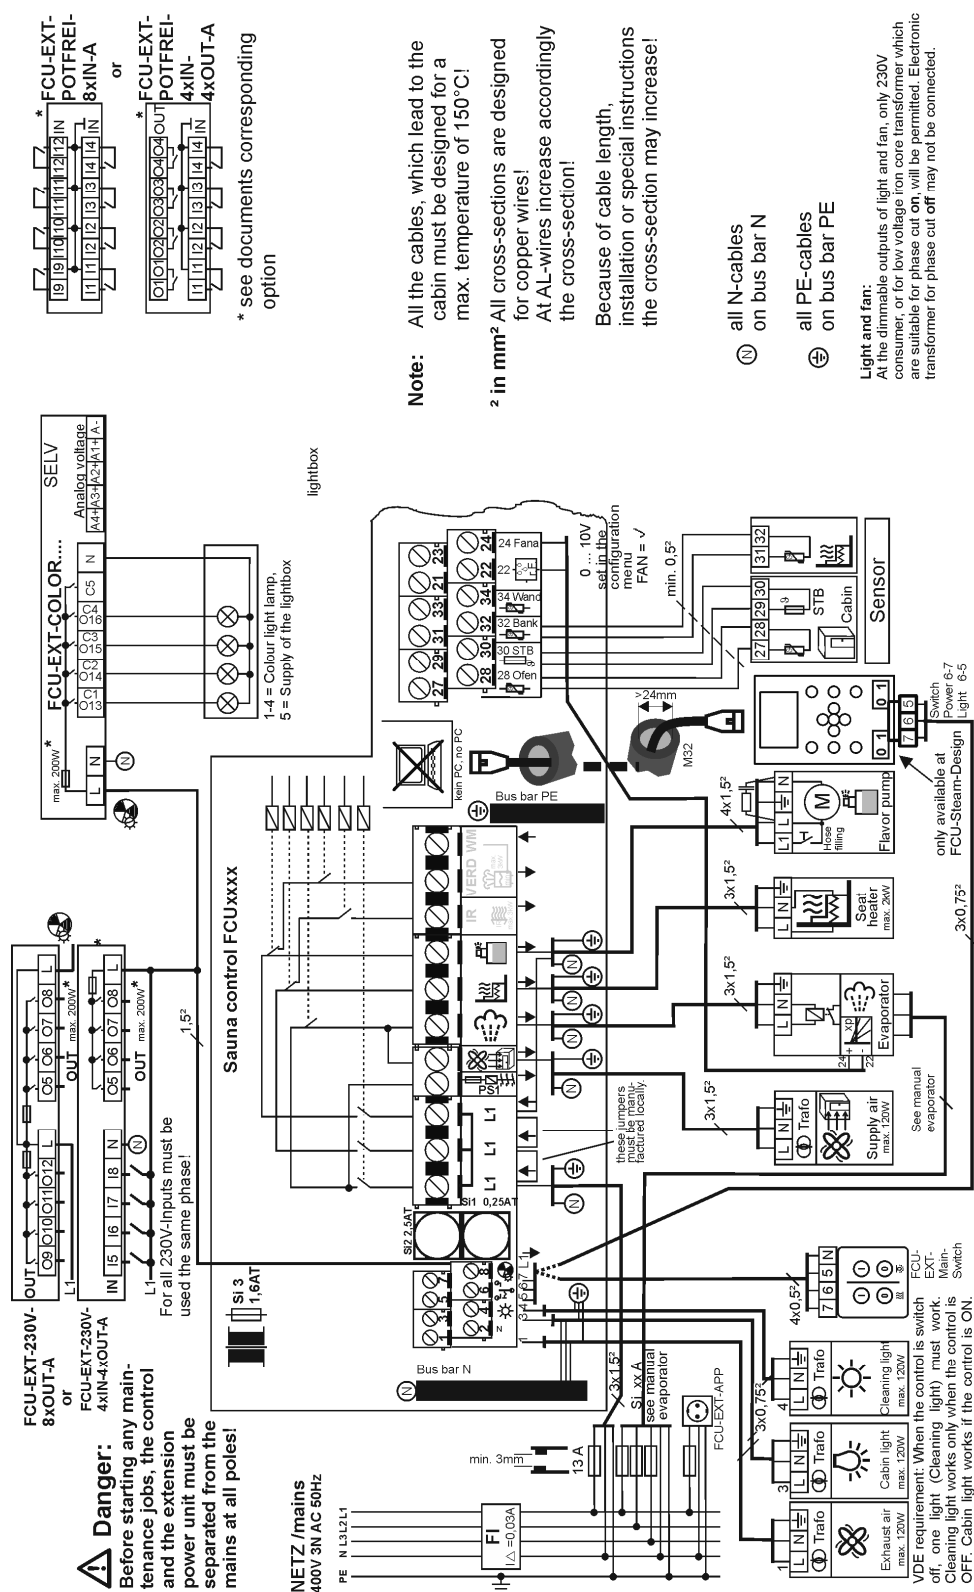

Figure 11: Electrical circuit diagram
3. Connect the sensor to the steam bath control as per the figures on page page 29, Figure 11 ff.
→ For electrical circuit diagram see page 25, Figure 11.
- Have the cable specifications given in Table 3, page 14 and the electrical circuit diagram Figure 11, page 29 been followed?
- Are the sensors (temperature) connected as per the electrical circuit diagram Figure 11, page 29?
- Have the cable specifications as per Table 3, page 10 and the electrical circuit diagram Figure 11, page 25 been adhered to?
- Are the sensors (temperature) connected as per circuit diagram Figure 11?